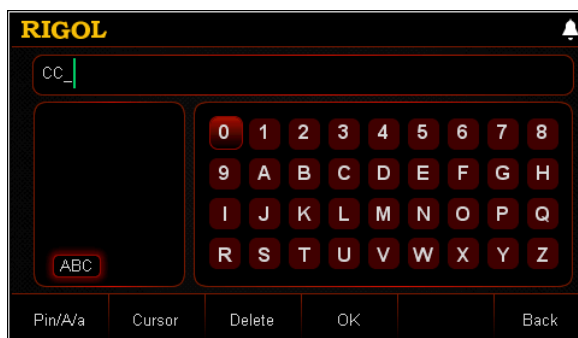

Figure 2-49 Filename Input Interface (uppercase English letters)
- Uppercase/lowercase English letters (as shown in Figure 2-49):